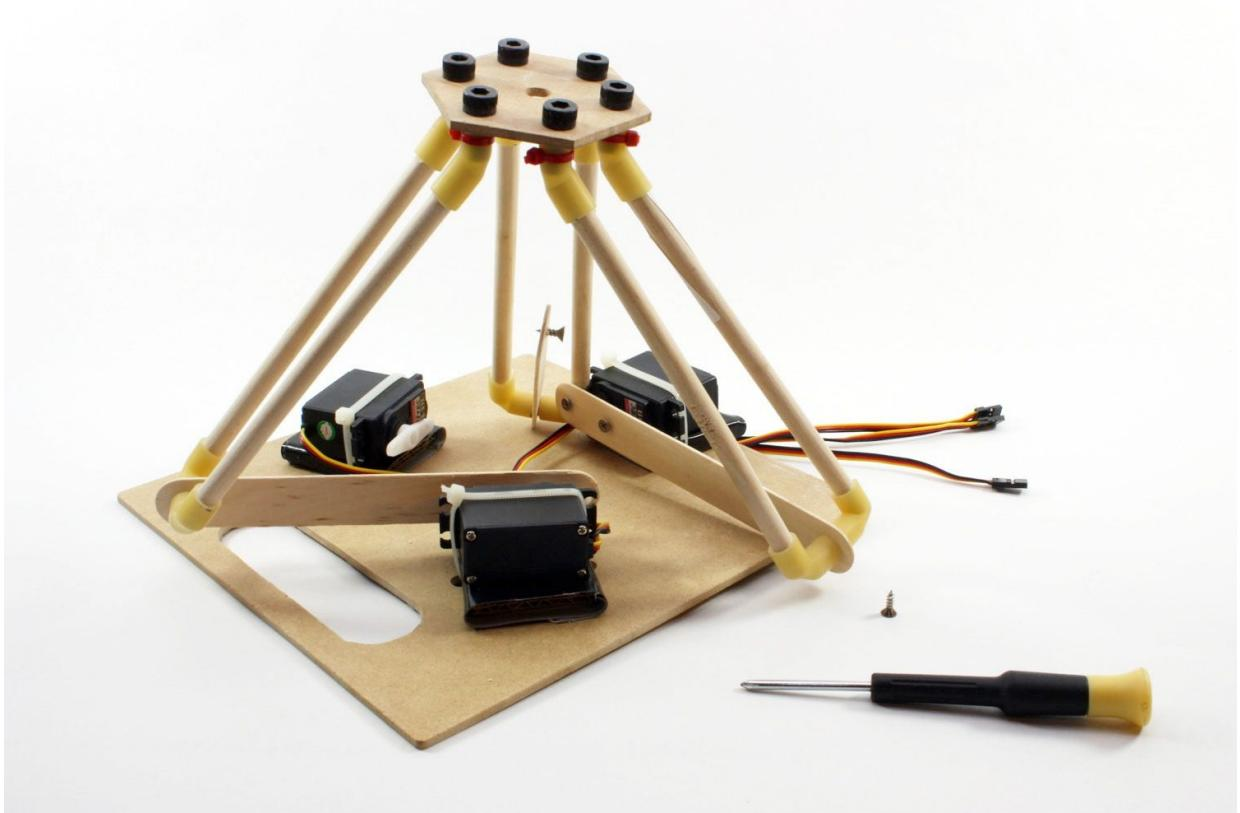

Figure 13-15. Attaching the arms to the servo horns
12. Finally, using the small, double-sided servo horn on the servo, attach the Popsicle sticks to the servo horns with the #4 screws. To orient things correctly, make sure the long side of each servo is parallel to the Popsicle stick. You'll need to manually turn the servo all the way back until it stops with your fingers so that it can go from parallel to the base to fully vertical. If you can't extend the arm, pop the servo horn off, turn the servo back, and pop the horn back on until it has the correct range of motion. Now you're done assembling the mechanical parts. Your bot should look like Figure 13-15 at this point.